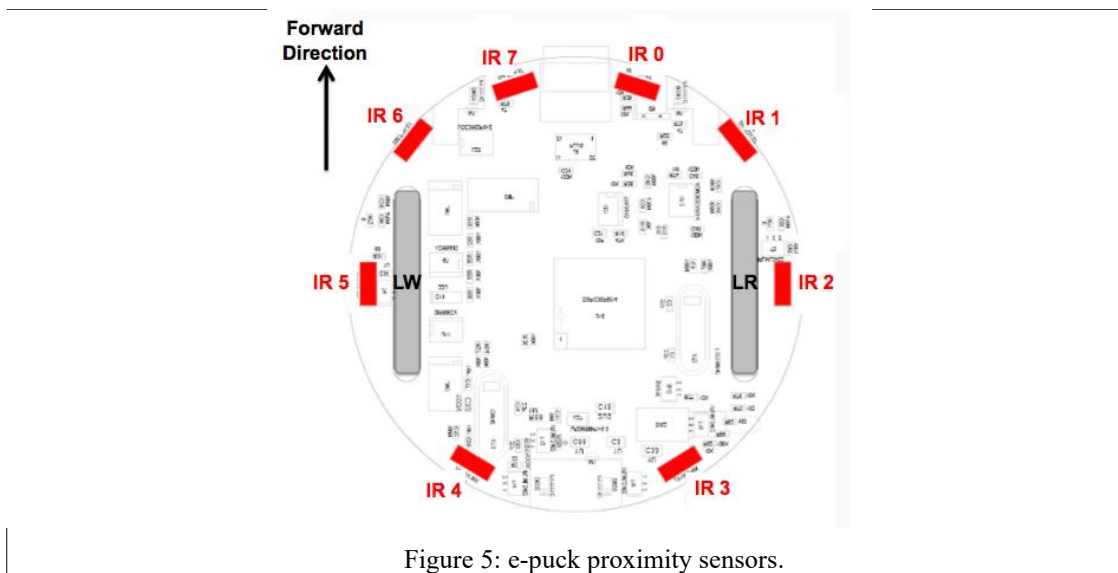

Figure 5: e-puck proximity sensors.
13. **(Q):** What is the influence of the parameter, say, $\alpha_{\text{left},0}$ on the speed of the left wheel? *Hint: explain what happens if $\alpha_{\text{left},0}$ is large or small when an obstacle is detected by the proximity sensor ps_0 (recall Figure 5).*
14. **(I):** Modify the parameters of the controller `e-puck_braitenberg.c` so that you achieve these behaviors (see note in code and refer to Fig. 5 for sensor placement):